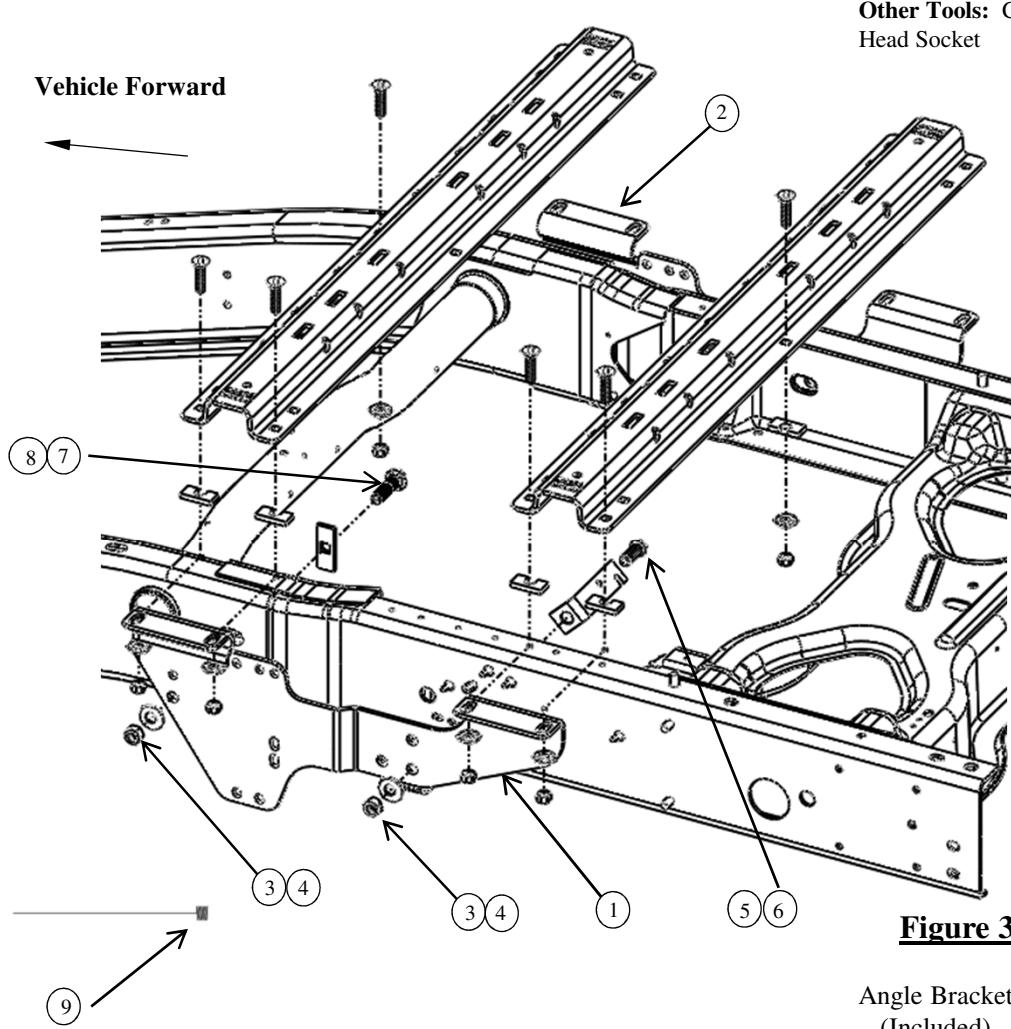
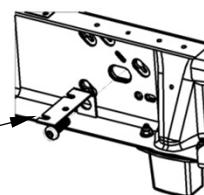

Figure 3
Figure 4c
When installing to Figure 3 & 6, during drilling protect the fuel tank and filler tubes, brake lines and wire harness by placing a piece of metal between the box floor and potential components at risk on the driver's side. This will prevent drilling into these items.
7. Fasten the frame brackets to the vehicle frame rails as shown in Figure 3. Pass the cap head bolt (6) through the conical washer (4) and then the rearward slot interior of the truck frame. Place the mounting bracket (1), conical washer (4), and the nut (3) on and hand tighten. On Pickups with OE Brake Controller, refer to installation step 2 to relocate the plug with the angle bracket. Use the cap head bolt (6) to attach the angle bracket to the inside of the frame (see Figure 4c), the angle bracket will go between the flat washer and the frame
8. The forward slot of the truck frame will require using the supplied wire pull (9) to install the carriage bolt to the interior of the truck frame. Pass the wound end of the wire through the exterior of the frame, pulling it enough to thread the rectangular carriage block (8) and the 5/8" carriage bolt (7) on to the wire pull. Pulling the wire pull back through the frame will allow the installation of the mounting bracket, conical washer (4) and the nut (3). Hand tighten the nut in place.